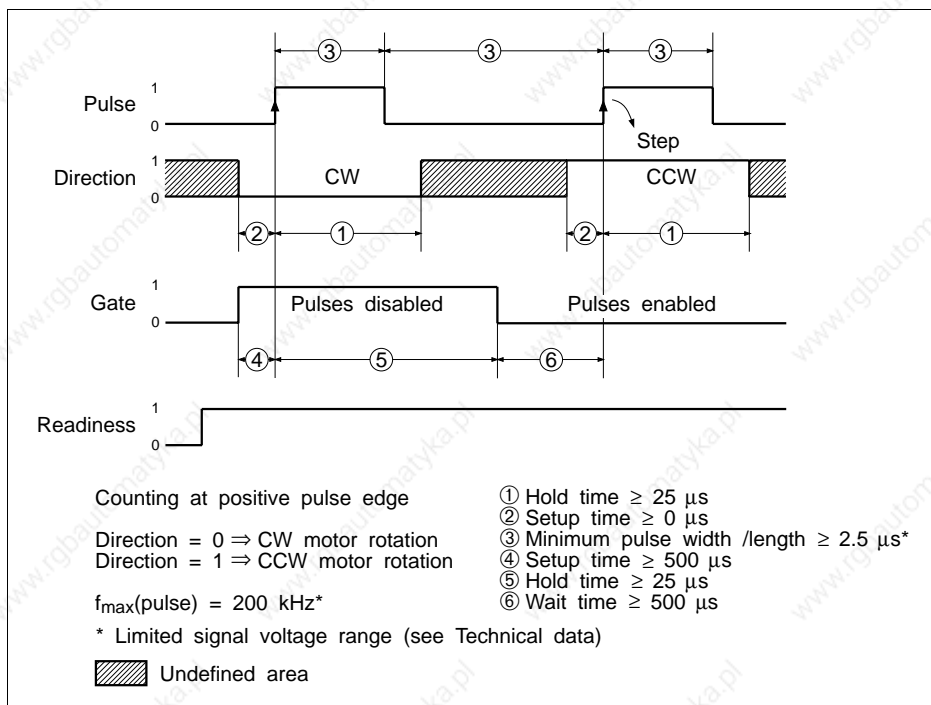

Fig. 8 Timing diagram
**Micro-step** The micro-step function can be selected using the micro-step signal input or the micro-step switch (see page 16). The timing of the micro-step signal input corresponds to the timing of the gate signal input (see fig. 8).